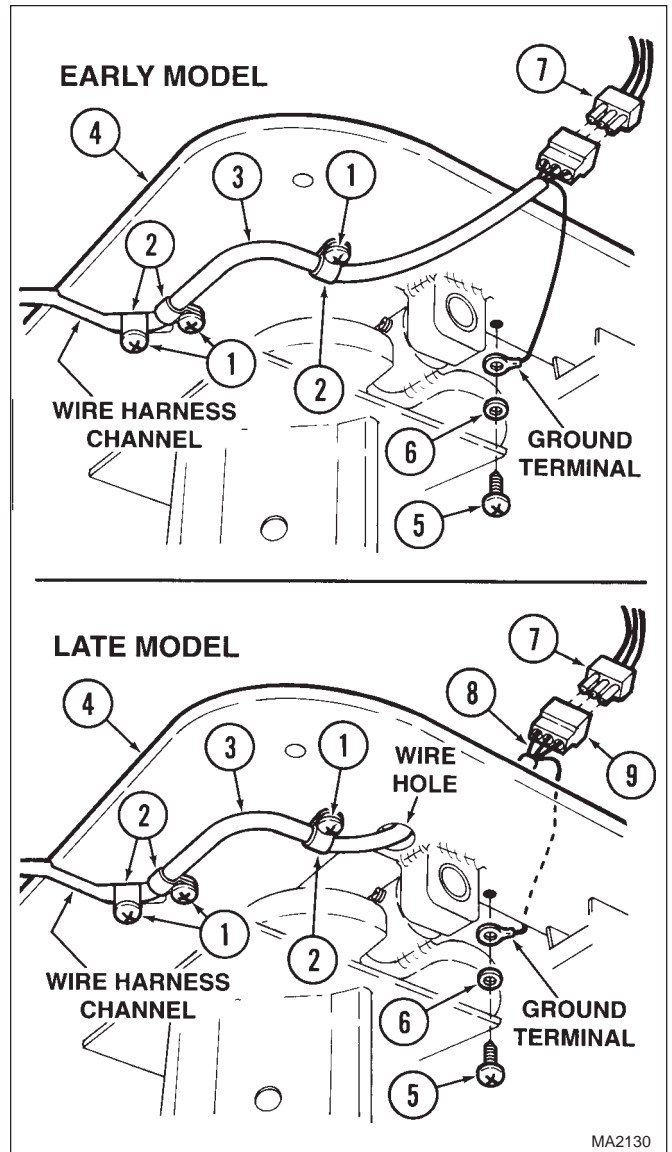

Figure 4-4. Back Actuator Wire Harness Disconnection / Connection
- (1) If the back actuator is operable, raise the table top as high as it will go.
- (2) Disconnect electrical power from the surgery table.
- (3) Lower the bellows assembly (Refer to para 4-3).
- (4) Remove the back cover (Refer to para 4-2).
- (5) Remove three screws (1, Figure 4-4) and clips (2) securing back actuator wire harness (3) to trendelenburg plate (4).
- (6) Remove screw (5), starwasher (6), and ground terminal of back actuator wire harness (3) from trendelenburg plate (4).
- (7) Disconnect back actuator wire harness (3) from wire harness (7).
Perform step 8 if the surgery table is an early model. Perform steps 9 thru 11 if the surgery table is a late model. See Figure 4-4 to determine if you have an early model or a late model.
Perform step 4 if the surgery table is an early model. Perform steps 5 and 6 if the surgery table is a late model. See Figure 4-4 to determine if you have an early model or late model.
- (4) Route back actuator wire harness (3, Figure 4-4) into surgery table.
- (5) Route back actuator wire harness (3) thru wire hole in trendelenburg plate (4) and into surgery table.
- (6) Insert three wires (8) into connector (9).
- (7) Connect back actuator wire harness (3) to wire harness (7).
- (8) Install ground terminal of back actuator wire harness (3) on trendelenburg plate (4) and secure with starwasher (6) and screw (5).